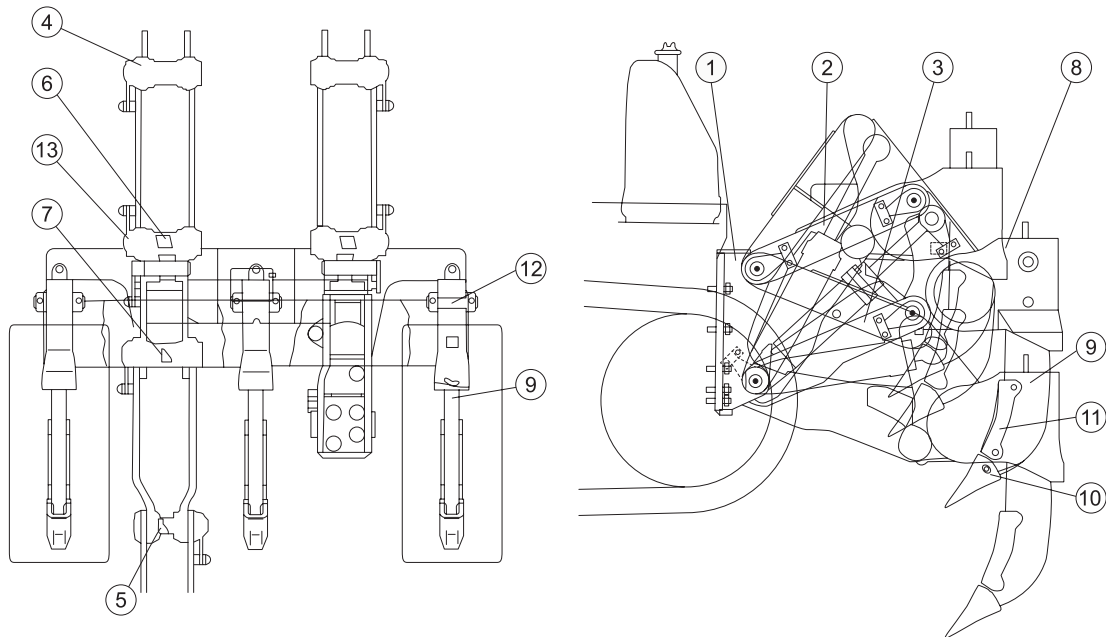

Figure 3-75: Angle blade
3.12.4 RIPPER (SEE FIGURE 3-75)